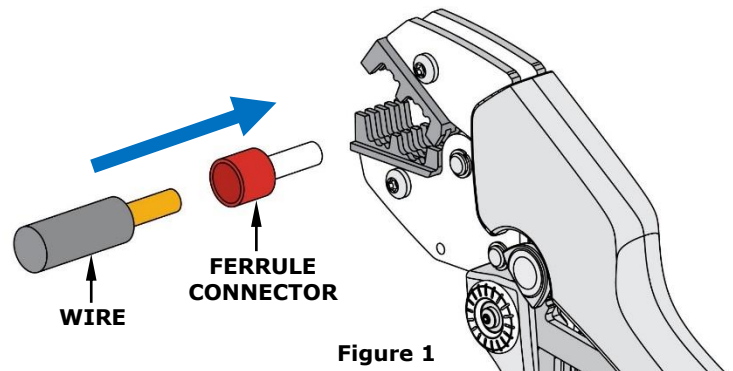

Figure 1
1. Insert a properly stripped wire into the ferrule connector and cycle the tool through a full cycle to open the jaws of the tool. See Figure 1.